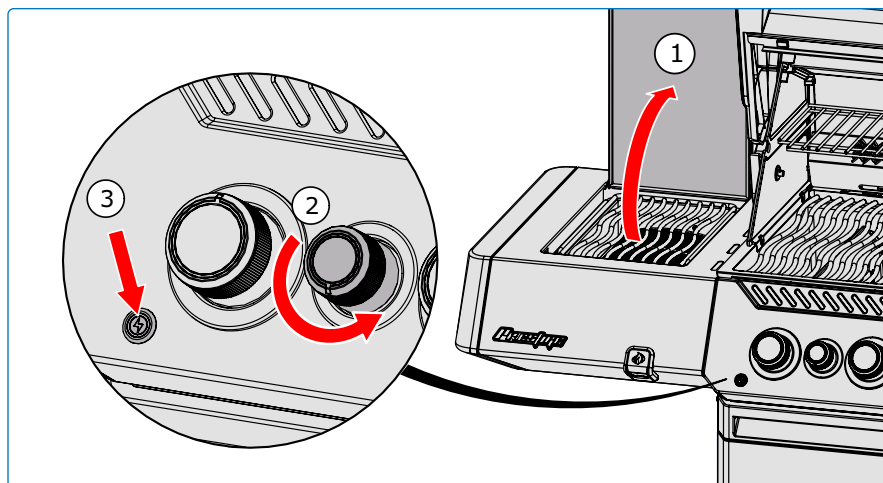

Fig. 7
4. If the burner will not ignite within 5 seconds – turn burner control knob clockwise to the OFF position. Wait 5 minutes. Repeat step 2 and 3. **(Fig. 7).**